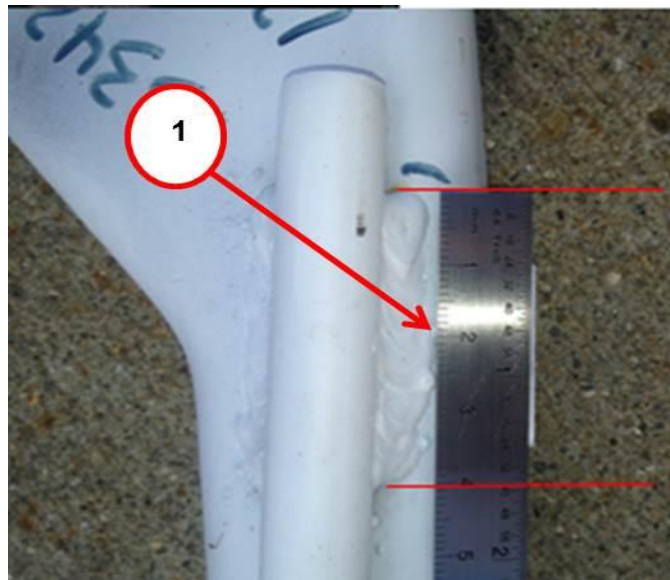

Fig. 3 Weld Length
5. Measure the length of the rod to bracket weld on each side of the rod (Fig. 3).